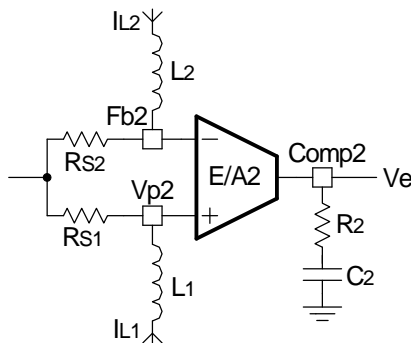

Fig. 21: The Compensation network for current loop
As shown the  $G(s)$  is a function of inductor current. The transfer function for compensation network is given by equation (23), when using a series RC circuit as shown in figure21.